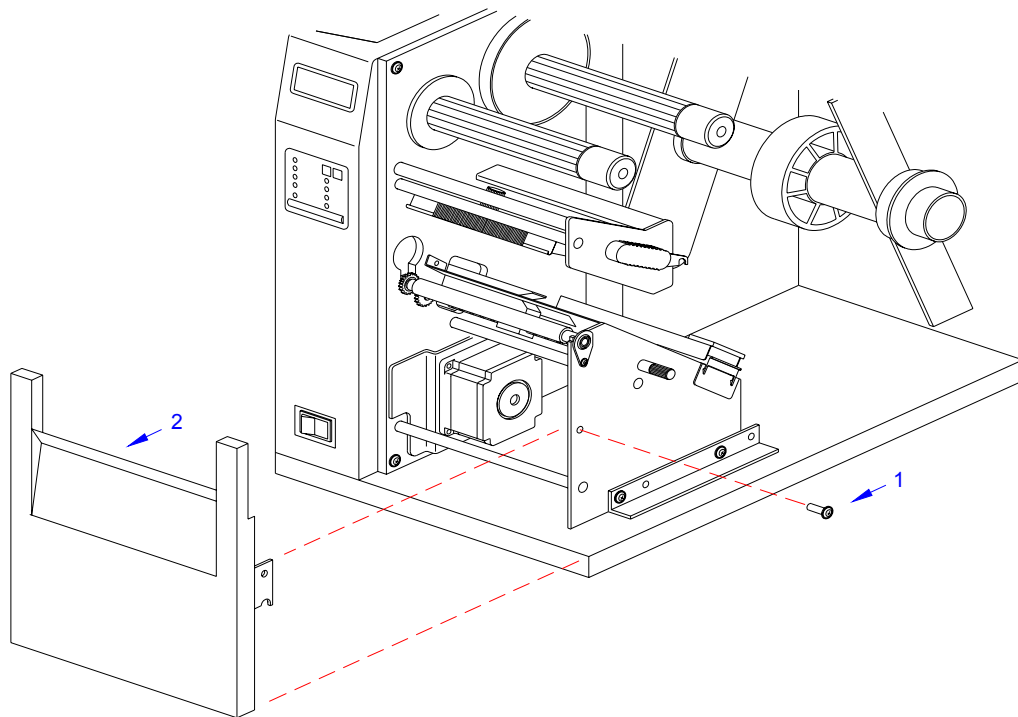

Figure 4-2a, Dispenser Installation
- 4 Remove screw (1, Figure 4-2a) securing front cover (2) to the printer frame. Lift away front cover (2).